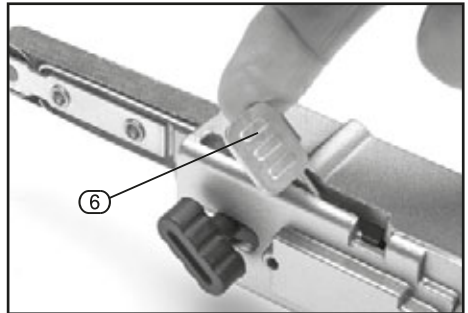

FIG.2
8.2 FITTING OR REPLACING THE SANDING BELT – FIGS. 2 – 3
- Pull the belt release lever (6) (located just above the belt tracking control knob) upwards to release the tension on the belt. (Fig.2)